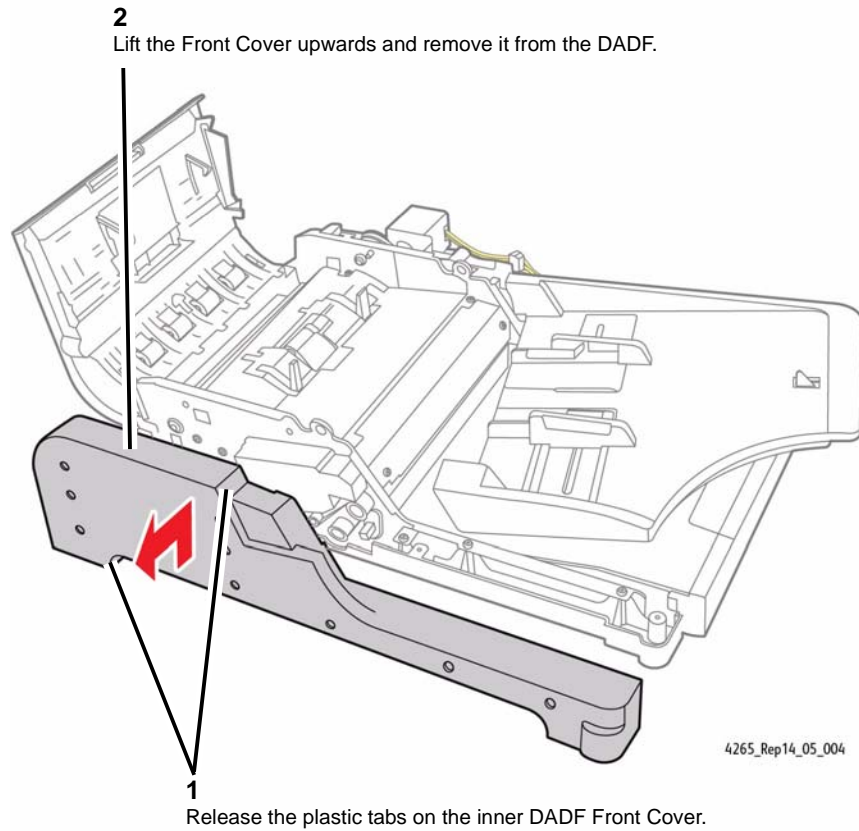

Figure 6 Removing the DADF Front Cover
8. Remove the DADF Front Cover (Figure 6).